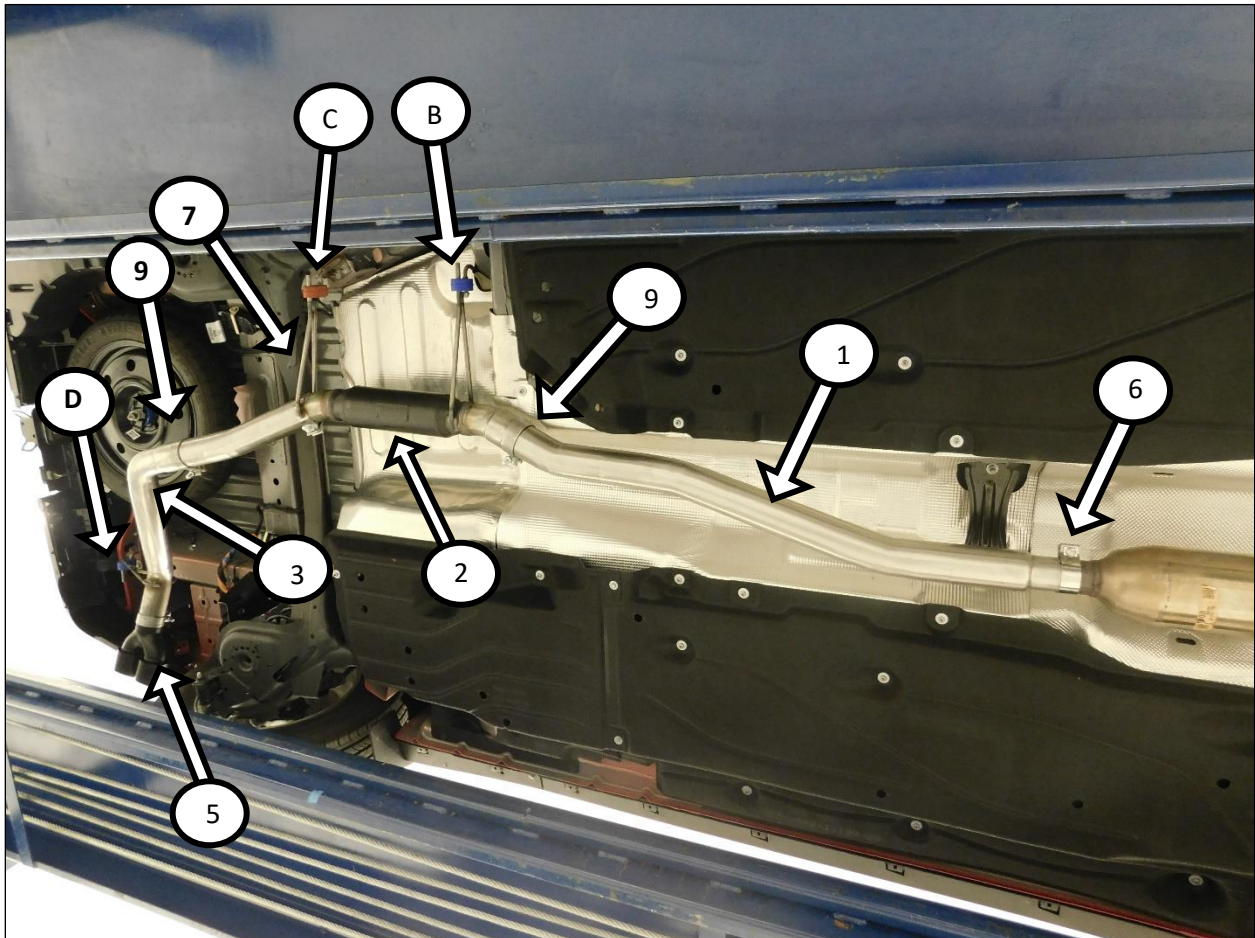
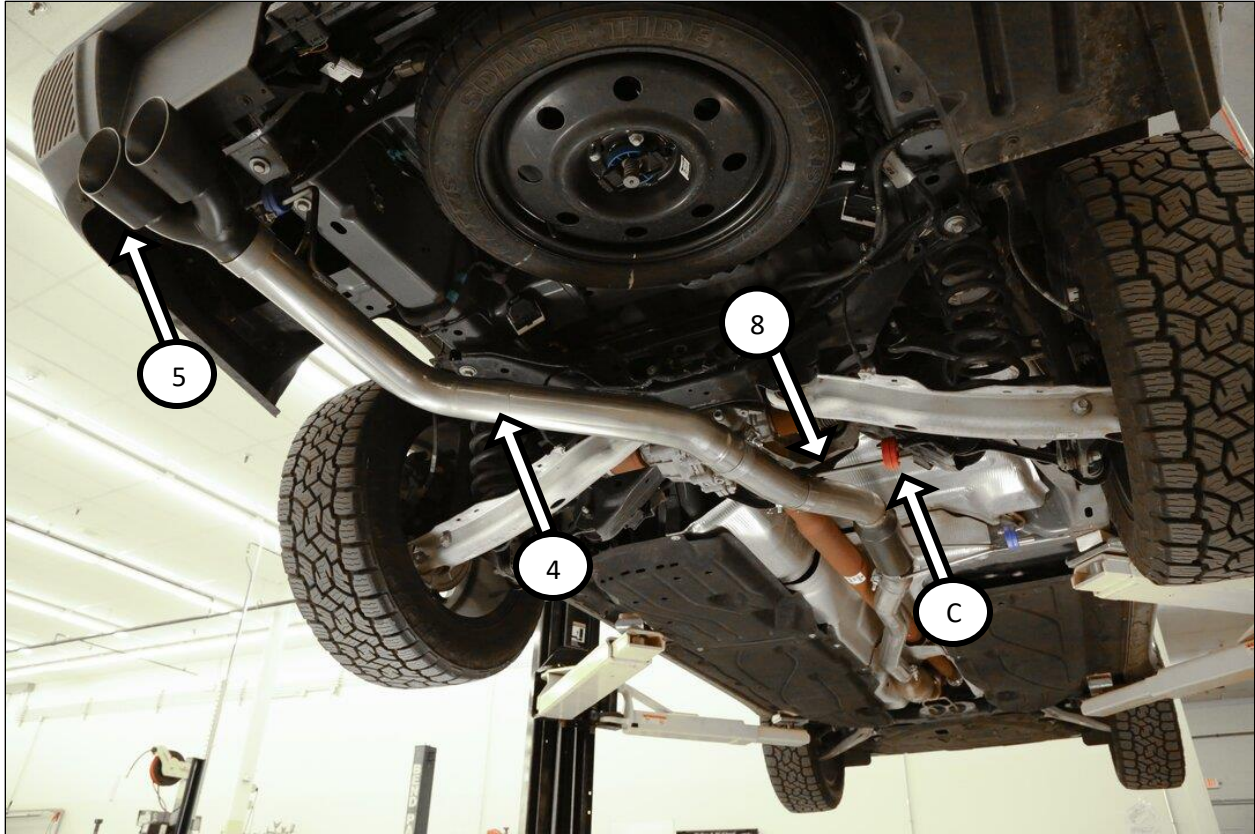

Figure 6 (Front Wheel Drive with Side Exit tailpipe shown)
Figure 7 (All Wheel Drive with Rear Exit tailpipe)
5. Install the clamp hanger **(7)** for **Front Wheel Drive** vehicle installation or clamp hanger **(8)** for **All Wheel Drive** applications (**Fig. 7**). Install with the bolt to the inside and nut facing down. Align the hanger rod with the factory muffler hanger and install the orange hanger rod isolator **(C)**. Tighten the clamp enough to hold the pipe, but allow for adjustment.
7. Install the side exit tailpipe **(3)** Shown (**Fig. 6**) or the rear exit tailpipe **(4)** See **Fig. 7**. Install the blue rubber isolator on to the hanger rods at the rear of the car **(D)**.